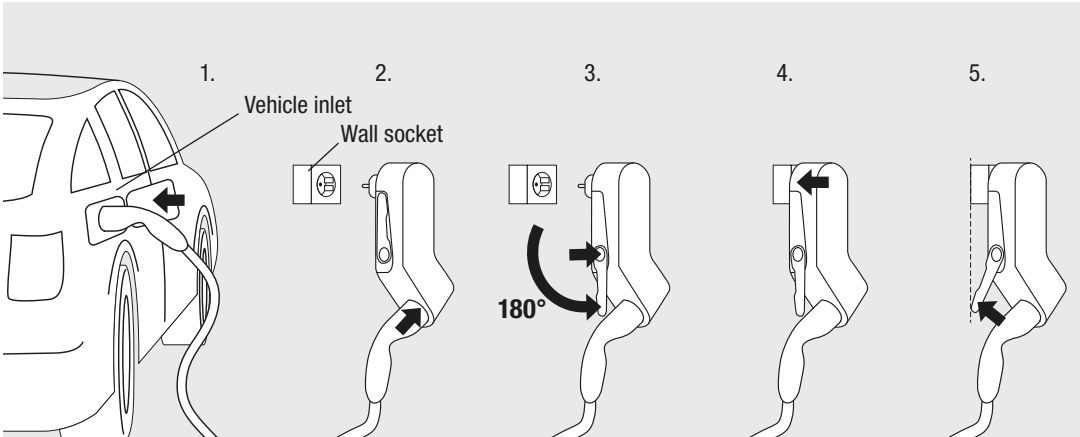

Fig. 2: Charging sequence
- Only operate the Mobility Dock vertically suspended and supported on a wall socket to avoid pulling on the wall socket (see fig. 2). Heavy loads can damage the Mobility Dock and/or the power socket.
- Do not plug the Mobility Dock into the socket until the charging plug is engaged in the type 2 outlet (C). Otherwise the wall socket may be damaged.
The Mobility Dock is a Mode 2 emergency charger for occasional, portable use. Permanent use only in a safe, motionless and vertical position. Operation only on mechanically and electrically suitable, wall-mounted sockets (see fig. 2, step 5)! Do not operate the Mobility Dock outside of the technical data.